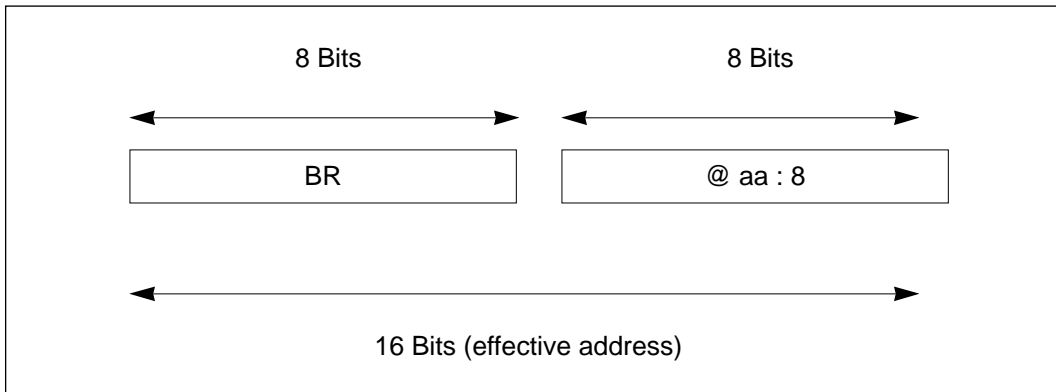

Figure 3-5 Short Absolute Addressing Mode and Base Register
Base Register (BR): This 8-bit register stores the base address used in the short absolute addressing mode (@aa:8). In this addressing mode a 16-bit effective address in page 0 is generated by using the contents of the base register as the upper 8 bits and an address given in the instruction code as the lower 8 bits. See figure 3-5.